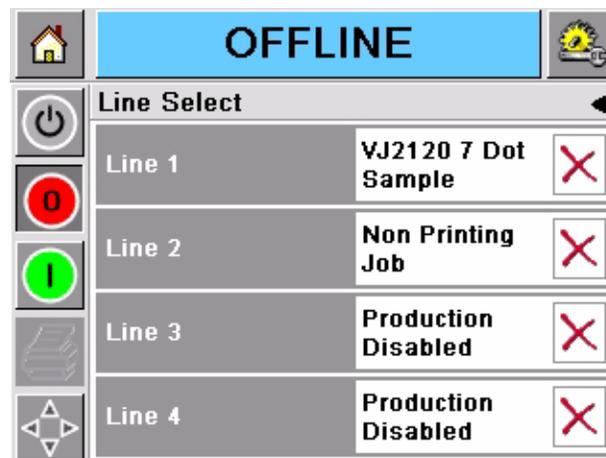

Figure 5-42: Line Select Page
- 4 Line Select page appears again (Figure 5-42).